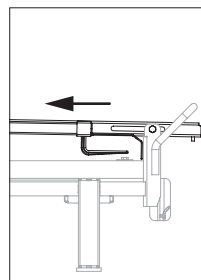

Fig. A13.01a
1. Pull out guardrail (32.1) horizontally. (Fig. A13.01a)